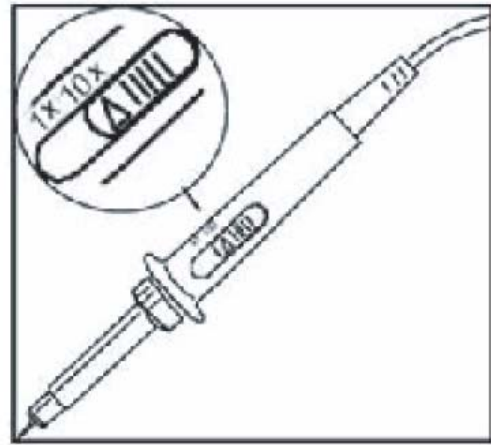

Figure 1-5 Setup of attenuation ratio switch on probe
- ①. (As shown in Figure 1-5), connect probe of digital storage oscilloscope to CH1 input terminal and set attenuation ratio switch on probe to $10\times$